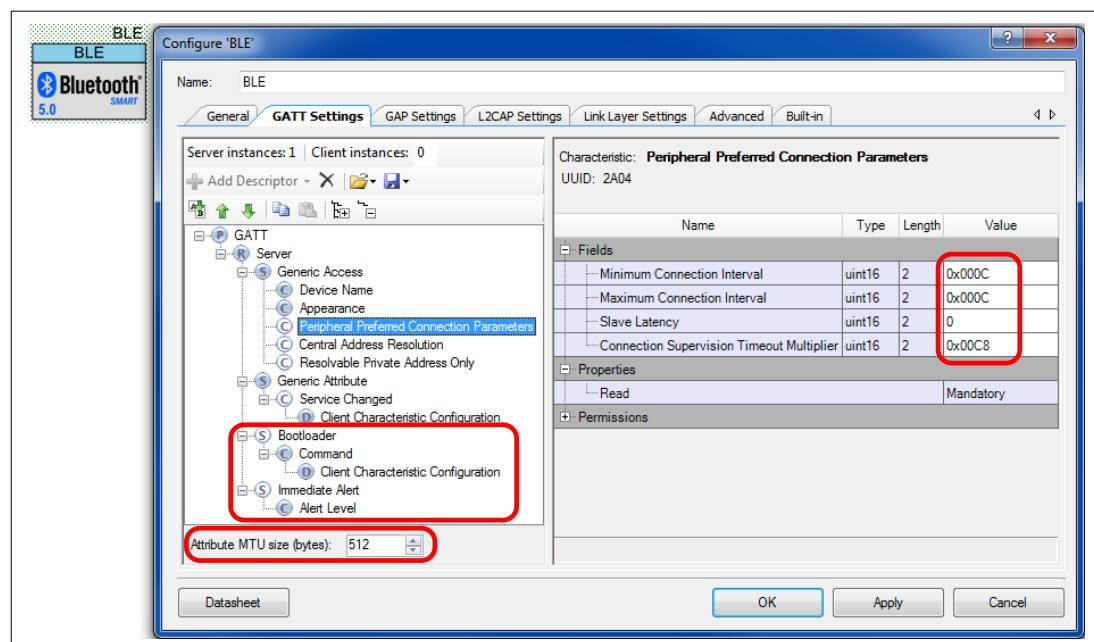

Figure 588 PSoC™ Creator BLE component, GATT Settings tab configuration
- GATT Settings tab (see Figure 588):